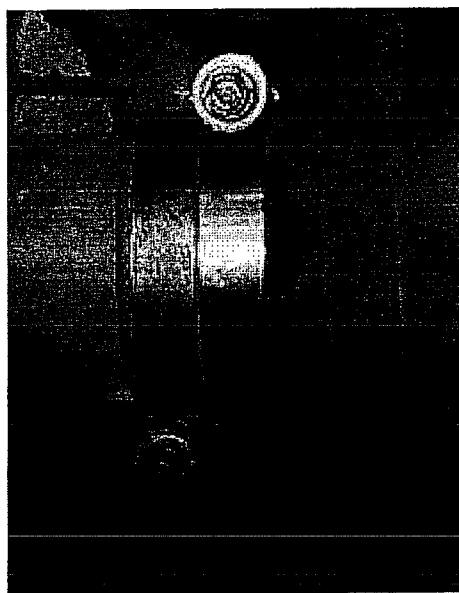

Fig 2
- 4.2.7 Each hose to pipe connection from & to water pump shall have double hex drive hose clamps fitted, Cummins PN 3922849 (see figures 1, 2 & 3). Each clamp shall be orientated so access for tightening can occur from access hatch (see figure 2).